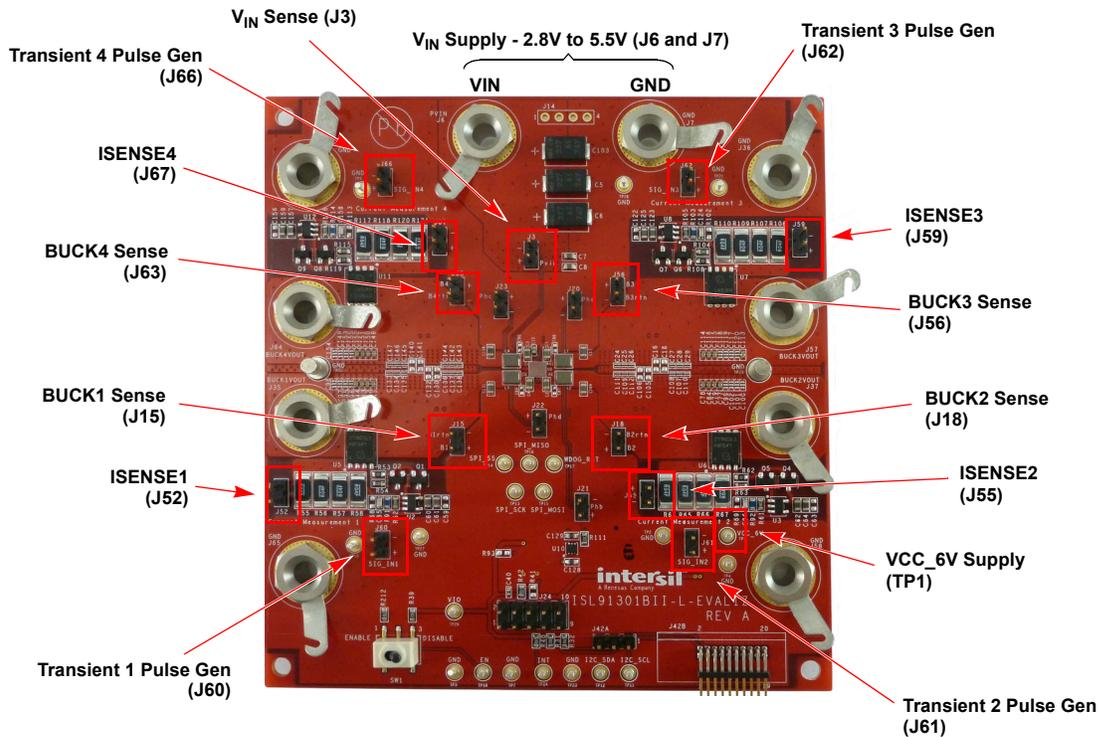

Figure 12. ISL91301BII-L/H-EV1Z Load Transient Measurement Connections
- (1) Complete the setup procedure. The ISL91301BII-L-EV1Z should already be powered up with 2.5V to 5.5V at J6 (V_{IN} supply) and 6V at TP1 (VCC_6V). The ISL91301BII-H-EV1Z should already be powered up with 2.8V to 5.5V at J6 (V_{IN} supply) and 6V at TP1 (VCC_6V).
- (2) Connect a slew rate controllable signal generator to transient load circuit input, J60 (TRANSIENT 1 PULSE GEN), J61 (TRANSIENT 2 PULSE GEN), J62 (TRANSIENT 3 PULSE GEN), or J63 (TRANSIENT 4 PULSE GEN).
- (3) Program the signal generator to pulse mode. Set the frequency to 100Hz, the ON duration to 200 μ s, and the signal amplitude from 0V to 2V. The load transient circuit starts to turn on when the input is \sim 2.6V. When in doubt, always connect the signal generator output to an oscilloscope set to a 1M Ω termination. The slew rate of the pulse, both rising and falling, should be conservatively slow, for example, 1 μ s.
- (4) Connect a differential probe to monitor load current across the sense resistors J52 (ISENSE1), J55 (ISENSE2), J59 (ISENSE3), or J67 (ISENSE4). The load current can be accurately converted to a voltage at 1A/10mV. Ensure the vertical scale of the oscilloscope is set properly to display the full amplitude of the load profile.
- (5) Connect a second differential probe at the VOUT sense points connected to the VOUT decoupling capacitors, J15 (BUCK1 SENSE), J18 (BUCK2 SENSE), J56 (BUCK3 SENSE), or J63 (BUCK4 SENSE).
- (6) Set the oscilloscope to measure the rise and fall times and maximum level of the load current. Slowly increase the signal generator amplitude and slew rate until the desired load profile is achieved. For detailed setup information, refer to Figure 12 on page 13.